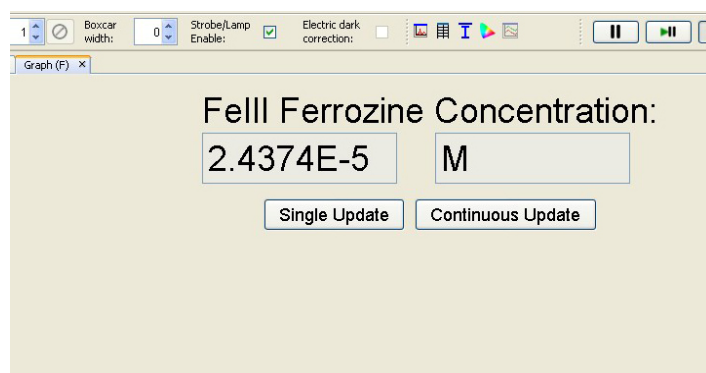

Fig. 23
Click *Finish* to run the concentration page. See Fig 23.
4. Click *Finish* to run the concentration page (Fig.23).